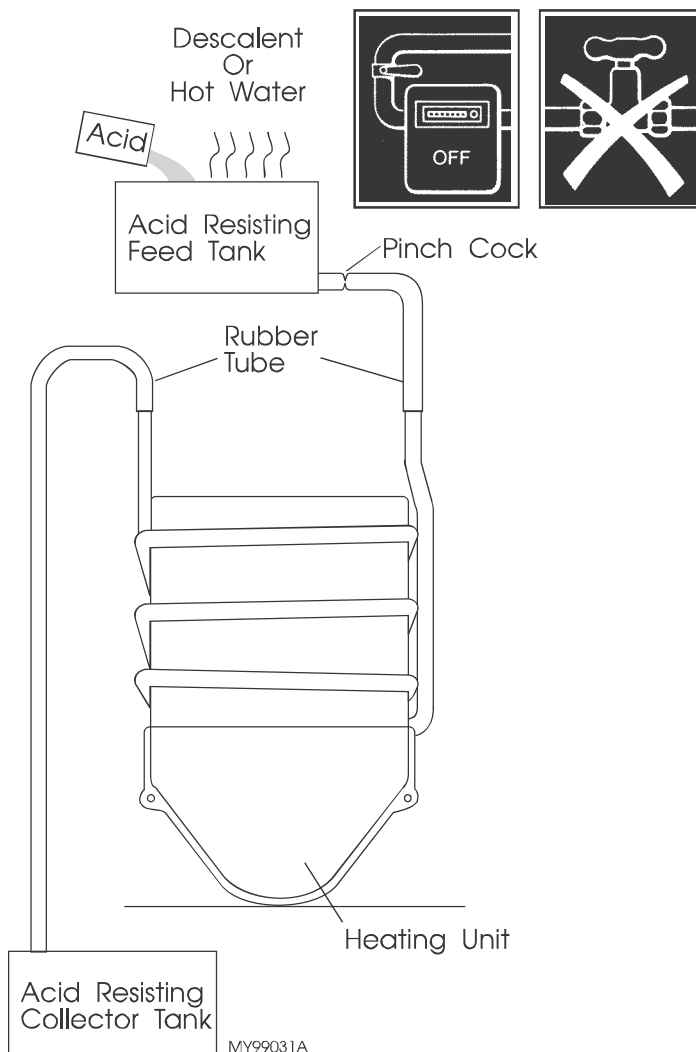

Fig. 48
- Using rubber tube and acid resisting tanks, assemble as shown in Fig.48.